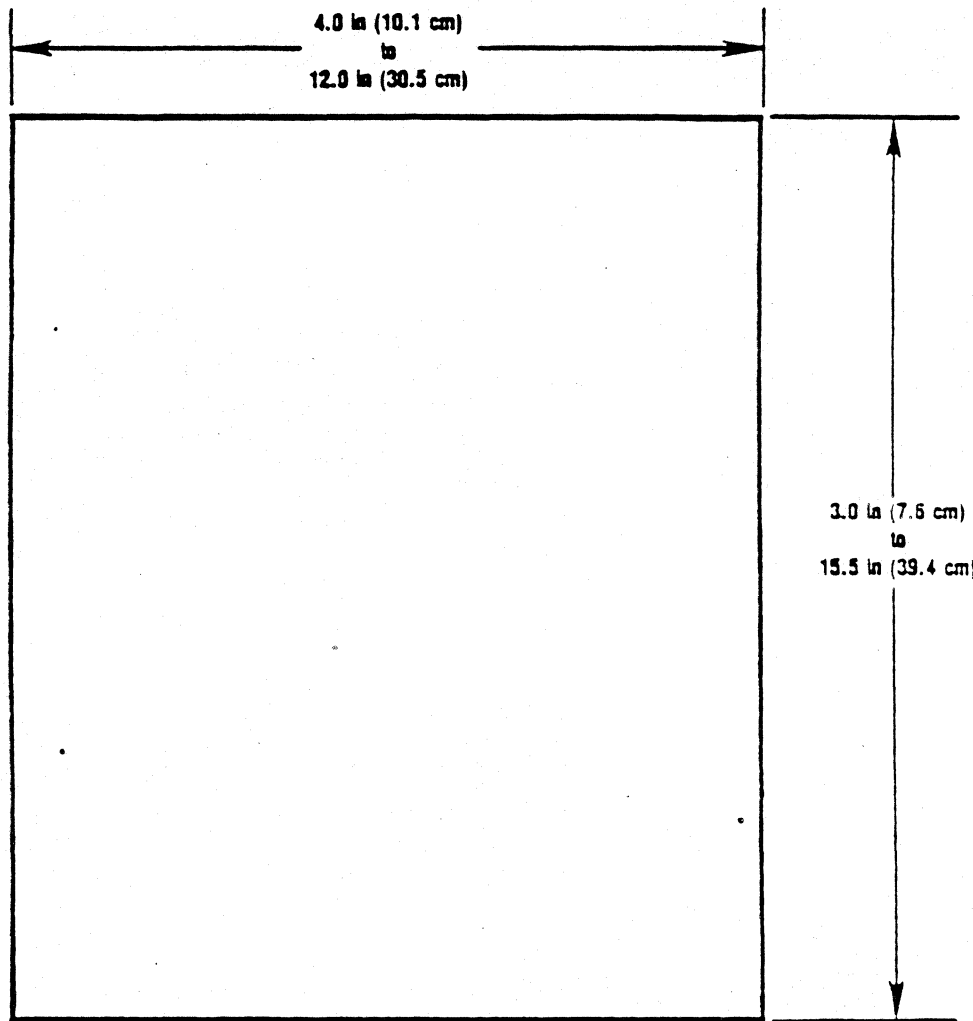

Figure F-2 Cut Sheet Forms Design
1. Size: See Figure F-2 for specifications.